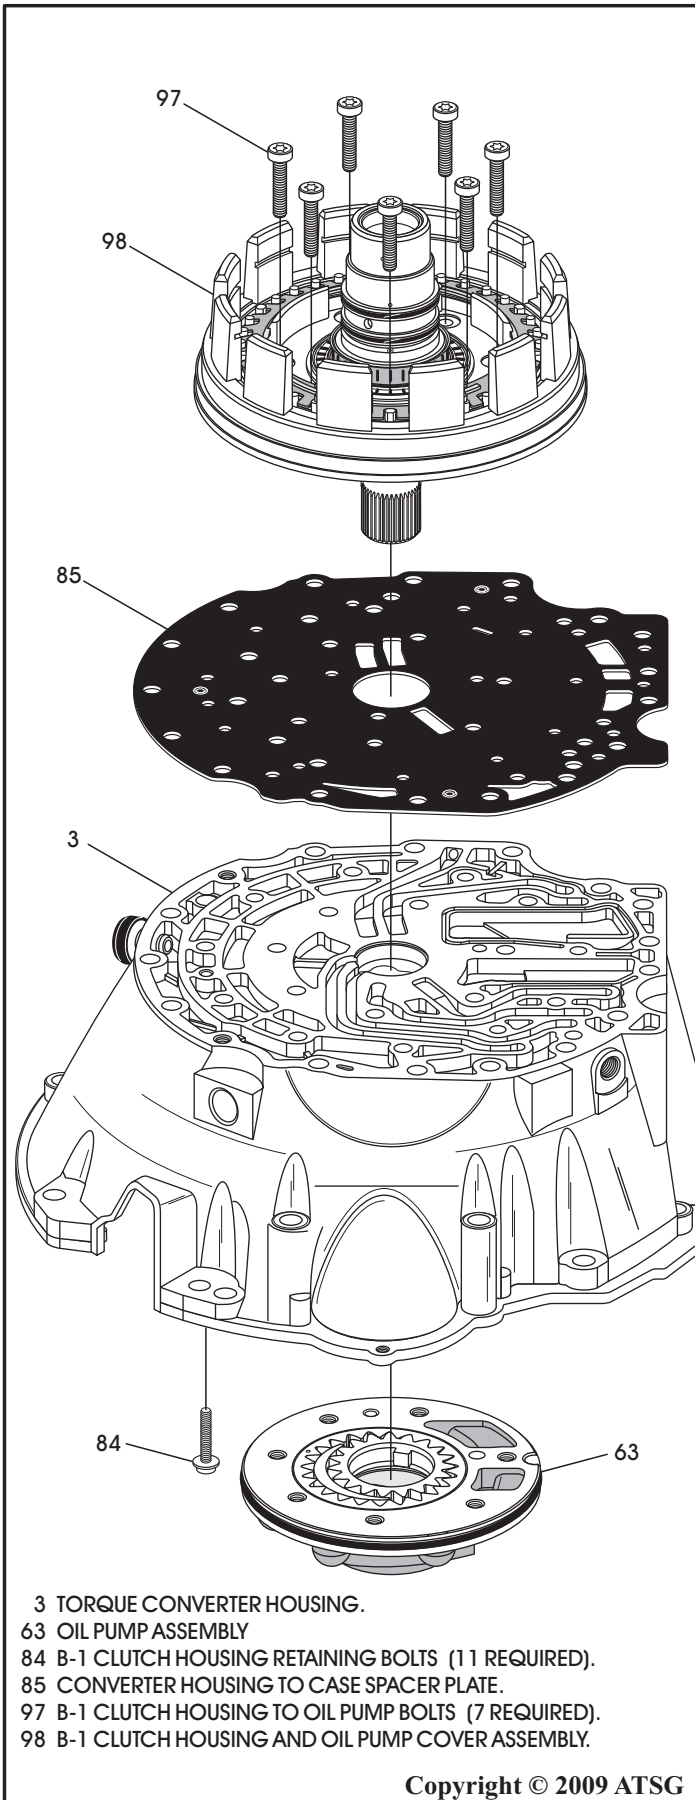

Figure 63
5. Remove seven B-1 clutch housing to oil pump retaining bolts, as shown in Figure 63.
6. Separate converter housing, oil pump, B-1 clutch housing, as shown in Figure 63.